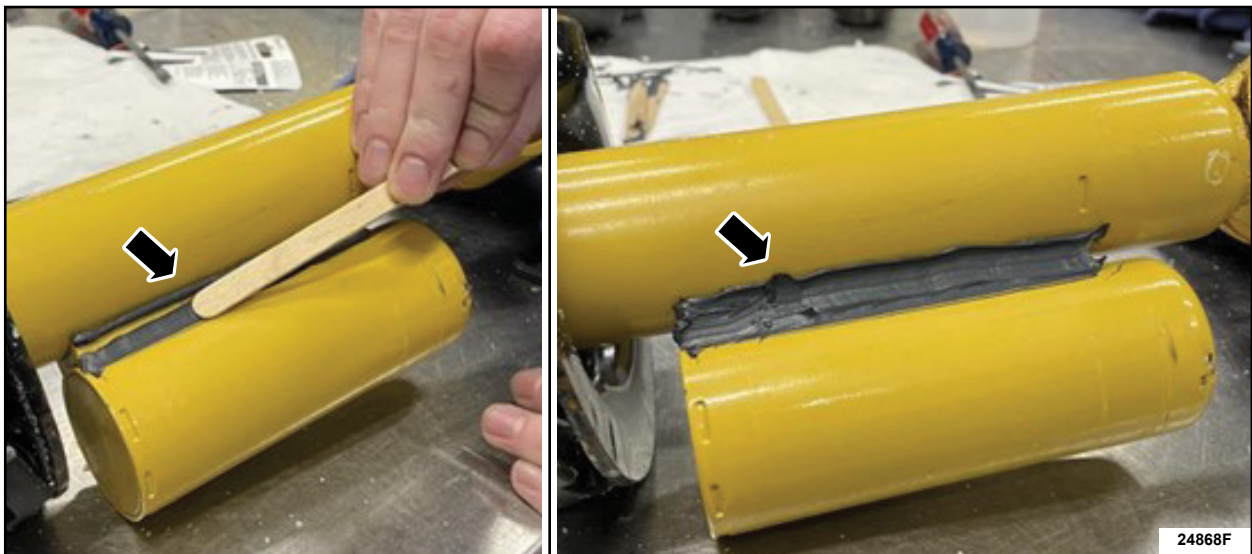

FIGURE 8
8. On both sides, use a smooth, rounded edged tool, such as a plastic trim tool or popsicle stick to smooth sealant along the edges. Make sure the sealant fully encapsulates the shock to reservoir flanges. See Figure 8.